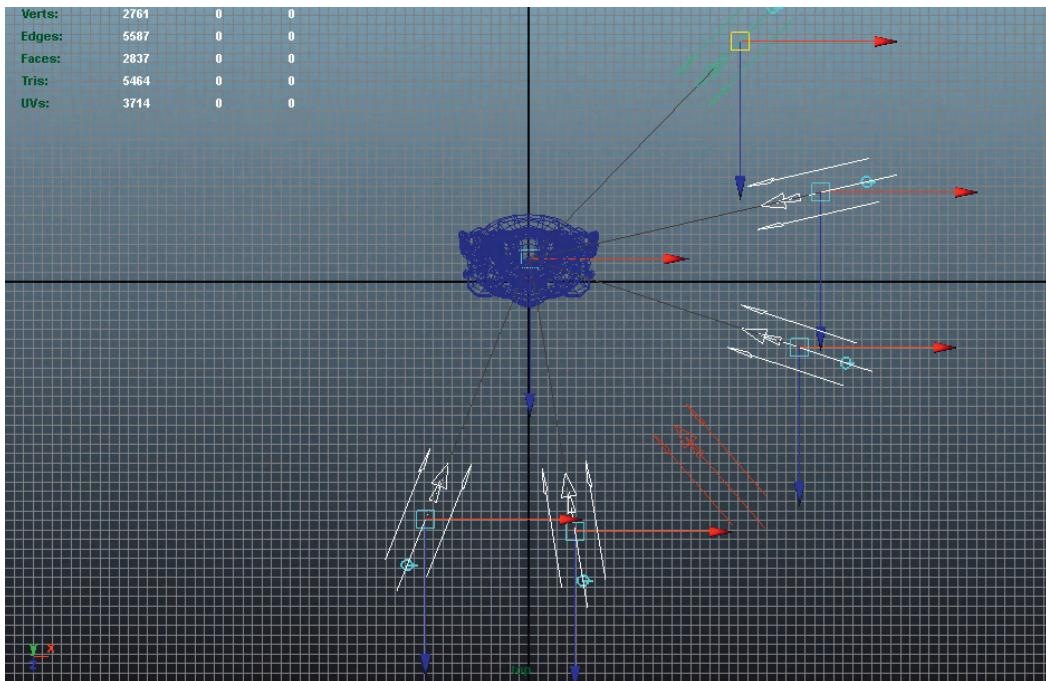

FIG. 7.49 More Warm_Fill_Lights.
Step 8: Duplicate and position 4 more copies of Warm_Fill_Light and position them roughly like Fig. 7.49.